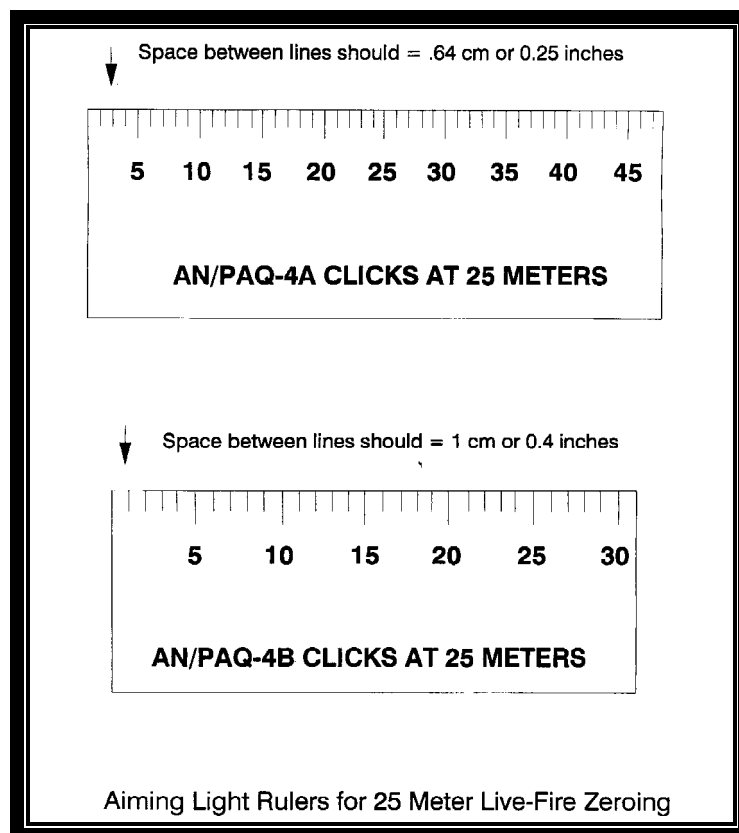

Figure 9
(4) **Ruler for aiming light adjustments.** The next step is to use a 12-inch ruler for determining the number of aiming light click adjustments for windage and elevation. **The vertical and horizontal lines on the M16A2 zero target cannot be used.** They do not correspond to the click size for the aiming light. Therefore, these lines cannot be used to determine the number of clicks to adjust the aiming light up or down and right or left. When zeroing the **AN/PAQ-4A**, 1/4" (.64 cm) on the ruler is equal to **1 click at 25 meters on the aiming light adjustment knobs, or 1" at 100 meters.** When zeroing the **AN/PAQ-4C**, 4/10" (1 cm) on the ruler is equal to **1 click at 25 meters on the aiming light adjustment knobs, or 1.6" at 100 meters.** Use the ruler to measure the horizontal and vertical distance from the unique impact point to the center of the shot group. During zeroing, place these rulers at each 25-meter target location. See Figure 9 (*Not to scale!*).